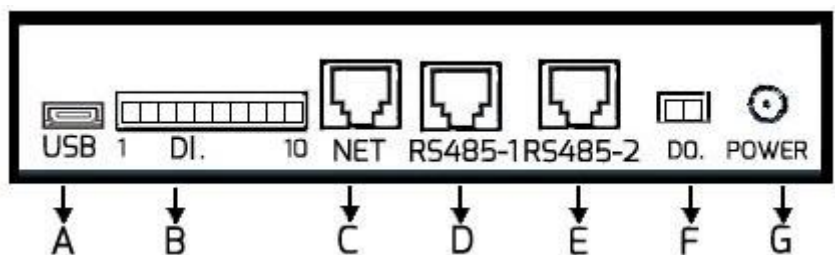
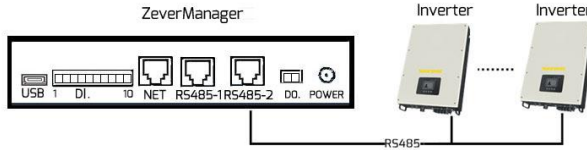
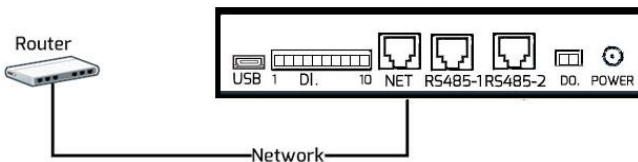
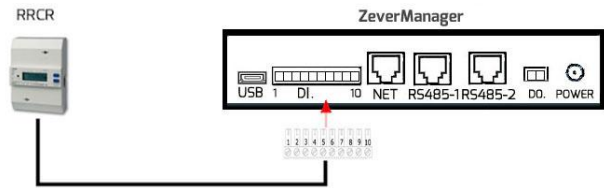

Fig. 5-1: Connection area
Fig. 5-2: Connect with the inverter
Fig. 5-5: ZeveManager linked network
Fig. 5-8: Connect to RRCR
Fig. 5-1 shows the connection interfaces of the ZeverManager to other devices.
The function of each interface in Fig. 5-1 is shown in Table 5-2.
Step 1: For PV Plants with more than one inverter, connect each inverter in a daisy chain configuration with an RS485 cable shown in Fig. 5-2.
Step 2: Connect the inverter closest to the RS485 port of the ZeverManager (port E in Fig. 5-1) as shown in Fig. 5-2.
1. The RS485-2 port between the ZeverManager and the inverter (port E in Fig. 5-1) uses the RJ45 socket. Please make sure to use the correct port.
The ZeveManager is connected to the network by simply connecting the network cable from the router to the network port of ZeveManager (port C in Fig. 5-1), as shown in Fig. 5-5.
The RRCR is connected to the DI. port of the ZeverManager (port C in Fig. 5-1), as shown in Fig. 5-8.
Connect the power adapter from the box to the Power Port (port G in Fig. 5-1). Plug the other end into a power outlet, check that the green LED (Power) illuminates as shown in Fig. 3-1.